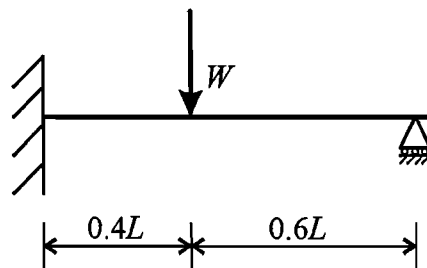

Fig. 5
- 4 (a) Perform an *elastic* analysis to find the bending moment at the clamped support of the propped cantilever shown in Fig. 5 when subjected to a point load W . [4]